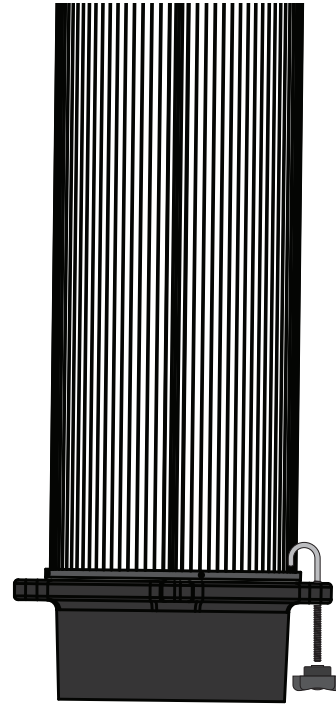

FIG. 13
Attach the Fine Dust Bin (J4) to the Filter (I) with four J-Bolts (J5A) and four Thumb Nuts (J5B) as shown in [FIG. 13].